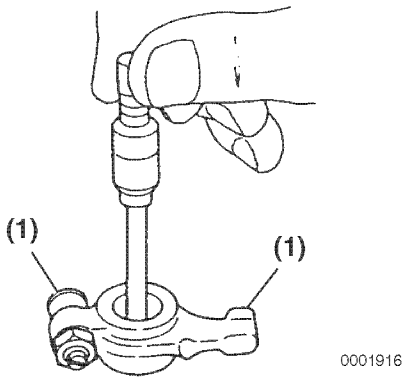

Figure 6-12
Use a telescoping gauge and micrometer to measure the inside diameter of all the rocker arm support brackets and the rocker arms (Figure 6-12). Record the measurements. See *Rocker Arm and Shaft on page 6-7 for the service limit.*
Inspect contact areas (Figure 6-12, (1)) for excessive wear or damage.